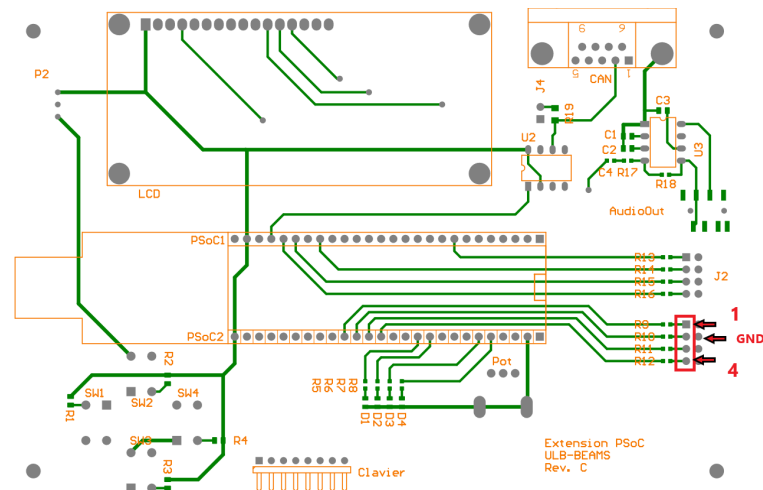

Figure 3: Where to connect the logic analyzer to the extension board.
- Connect the analyzer to the extension board as shown in Figure 3.